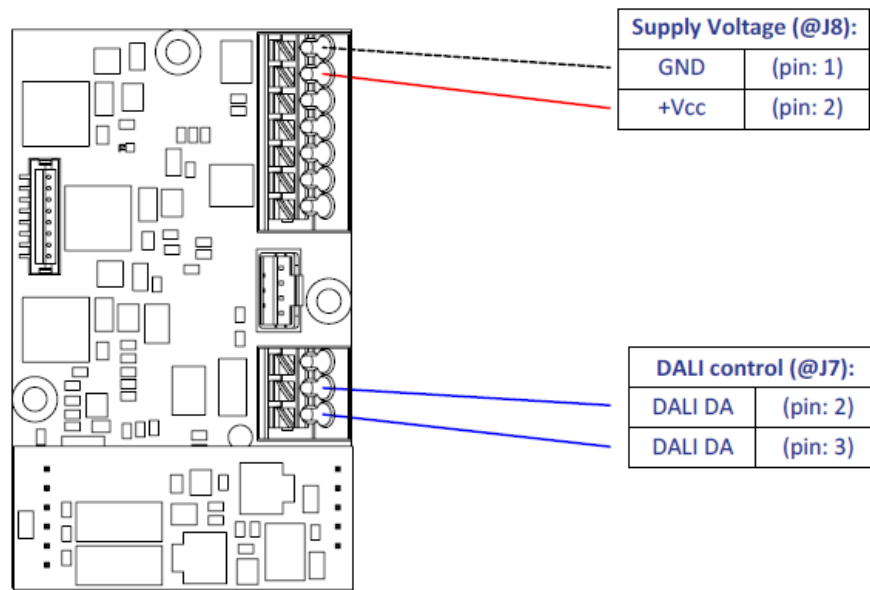

Figure 27: Wiring diagram for DALI control
To add DALI functionality to the motherboard first remove the power from the driver board and then place the DALI extension board on connector J6 & 9 (dual Header). See Fig 25. This will connect the DALI control input to pin 2 (DA) and pin 3 (DA) of connector J7 on the motherboard. See Fig 27.